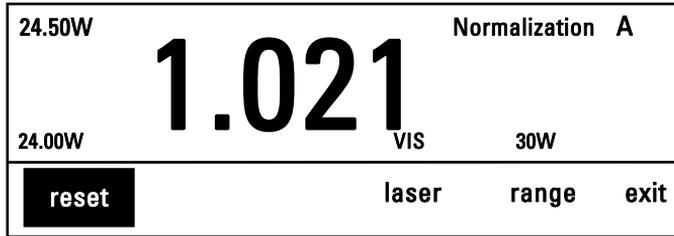

Figure 7
2. Press "go" and when ready to normalize, press "apply". From then on, the power will be proportional to the normalized power value. (see Figure 7)